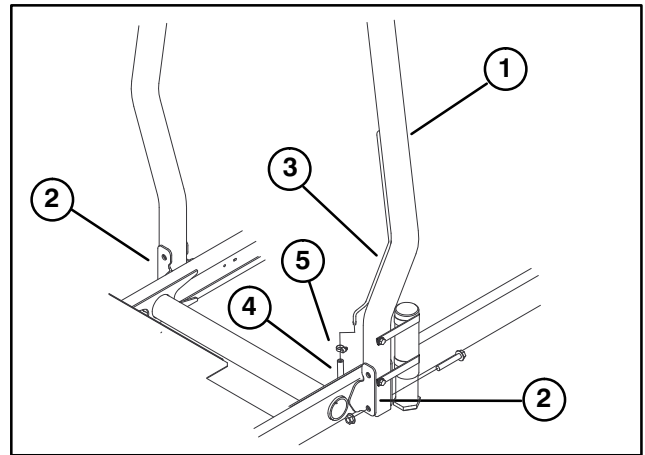

Figure 10
INSTALL ROPS (Fig. 10)
4. Secure each side of roll bar to mounting brackets with (2) flange head capscrews and locknuts (Fig. 10). Torque fasteners to 60 ft-lbs.